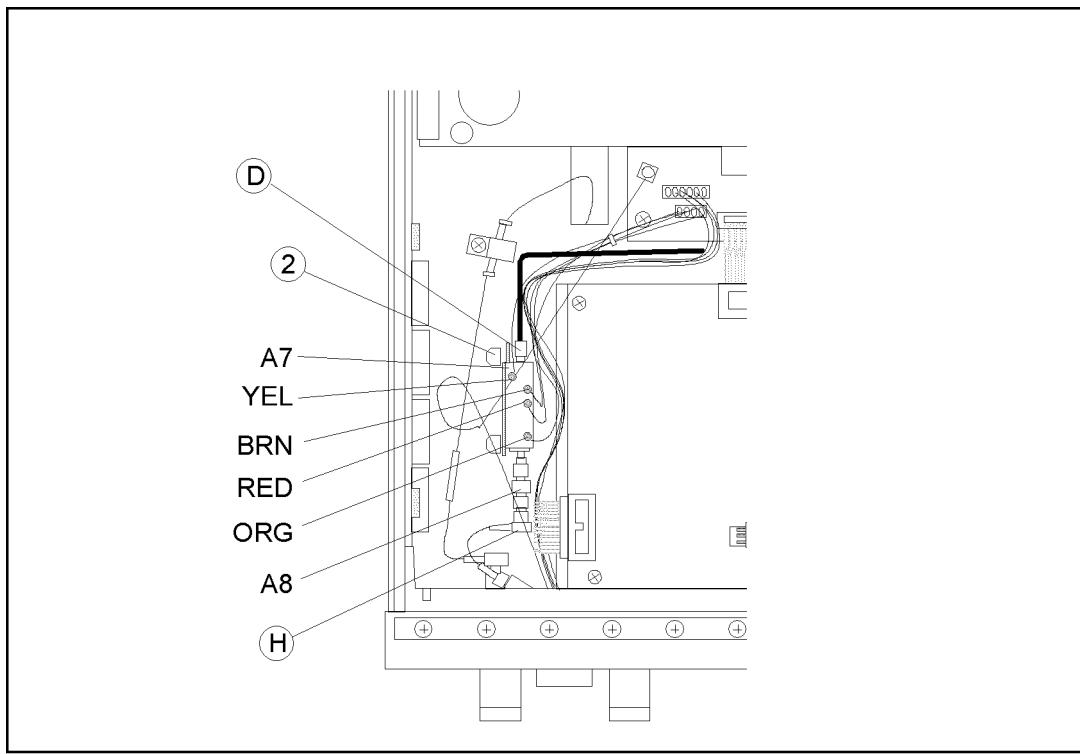

Figure 13-6. A7 Input ATT and A8 3 dB ATT Replacement
4. Unsolder the cable designated ① in Figure 13-6 from the A7.
5. Remove the semi rigid cable ④ from A8.
6. Remove the two screws designated ② in Figure 13-6, to remove the A7 holder from the chassis.